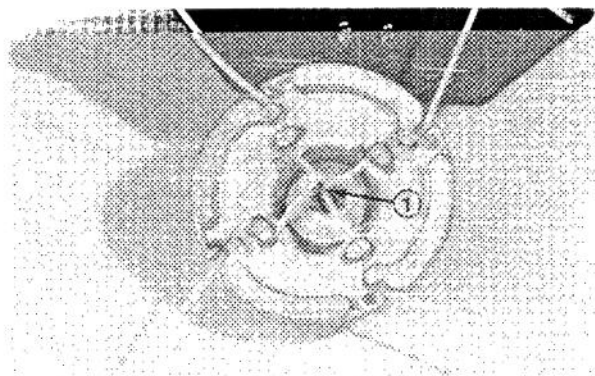

Figure 22
6. Center another line at right angles to the first line and install it into the remaining projections (Fig. 22).